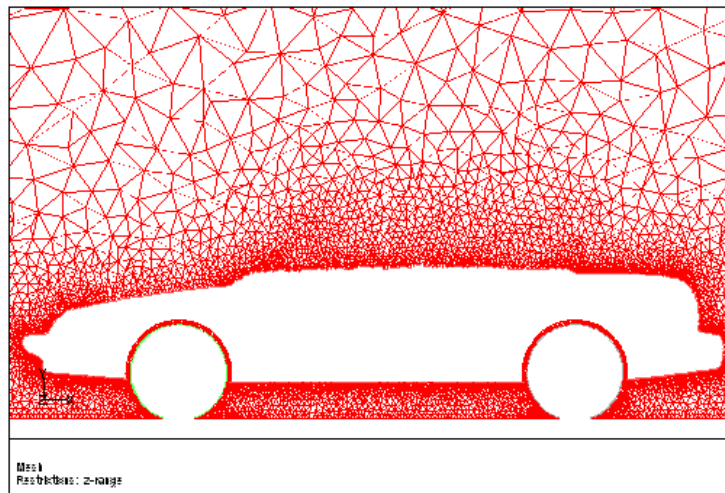

Figure 2.11: Slide of Cells at $Z = 0.38$
- (b) Display the mesh on a slide through the wheels ($z = 0.38$). See Figure 2.11.